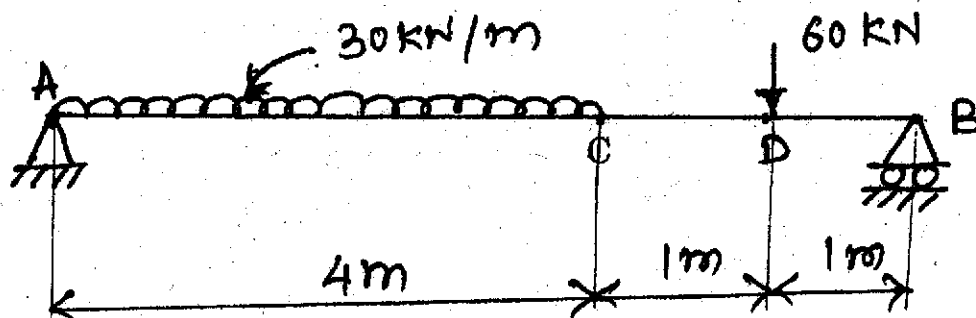

Fig. 5
- (b) Determine slope at point 'C' and deflection at points 'C' and 'D' for the beam as shown in Fig. 5. Take $EI = 4 \times 10^4 \text{ kN-m}^2$. [8]